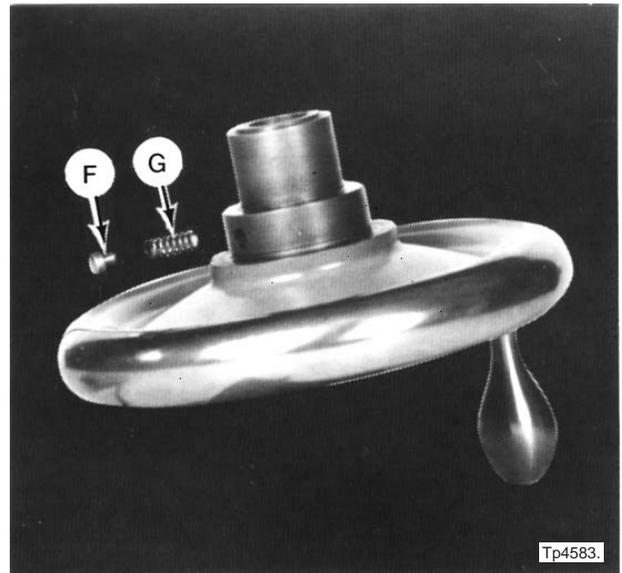

Figure 6.38 - Plug and Spring for Dial
**Plug "F", Figure 6.38, is spring-loaded. Exercise care when removing plug "F" from the handwheel.**
- d) Remove plug "F" and spring "G", Figure 6.38, from the handwheel.
- q) Replace spring “G” and plug “F”, Figure 6.38 .